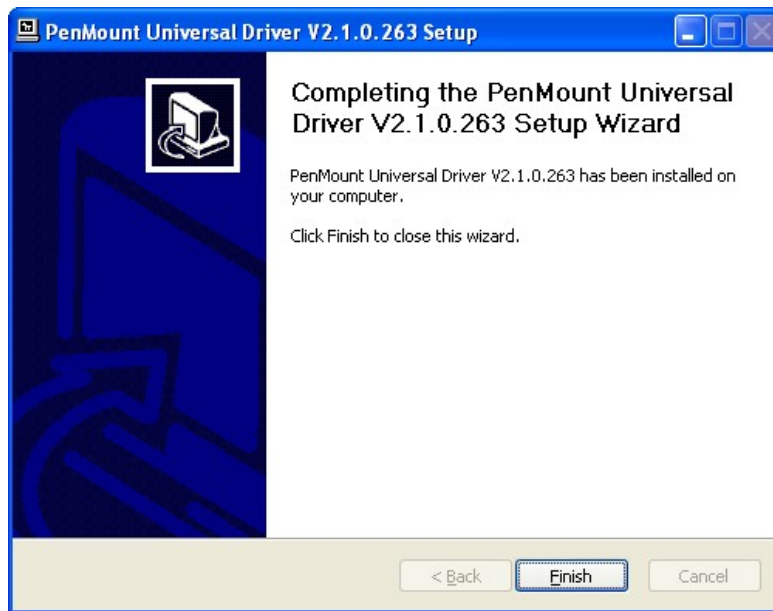

Figure 6-28: PenMount Universal Driver Update Complete
Step 10: When the installation is complete, click **FINISH** to exit setup (Figure 6-28).